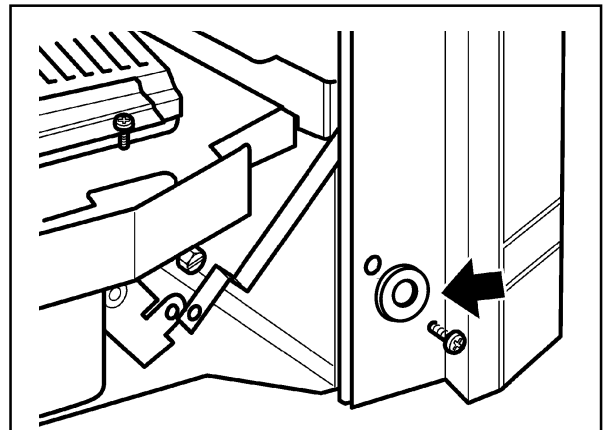

Figure 29. Front Surround Bottom Location
3. Swing the bottom control linking bar towards the centre of the fire to clear the right side of the surround. Slide the surround unit sideways, if necessary, to align the bottom fixing holes with those in the hotbox. Fix the bottom of the surround unit to the hotbox with two washers and screws (See figure 29).